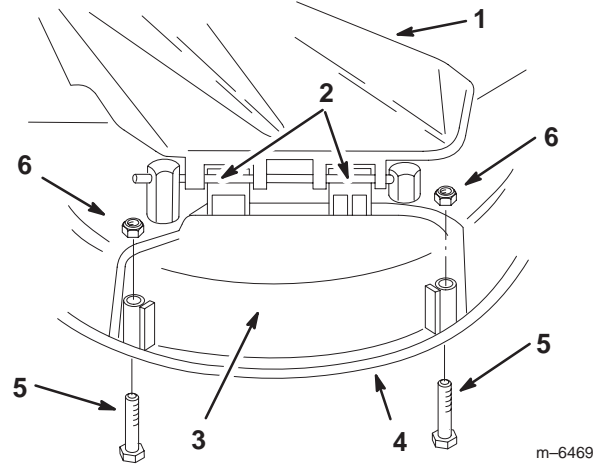

Figure 8
2. Lift the grass deflector and slide the tabs on top of the discharge cover under the grass deflector retaining rod. Rotate the discharge cover down over the opening, and onto the lower lip of the mower (Fig. 8).
3. Secure the discharge cover to the lower lip of the mower with 2 bolts (1/4 x 2-5/8 inch) and 2 nuts (1/4 inch) (Fig. 8).
2. Remove the 2 bolts (1/4 x 2-3/4 inch) and 2 nuts (1/4 inch) that secure the discharge cover to the mower (Fig. 8).